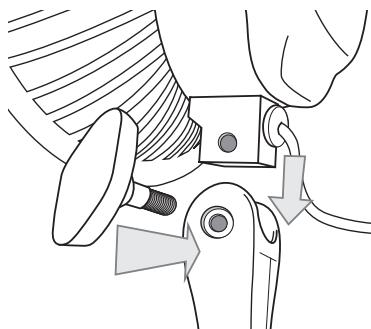

Figure 2
2. Place the fan housing (2) on the stand (5). Fix it in place with the appropriate screw (see figure 2).